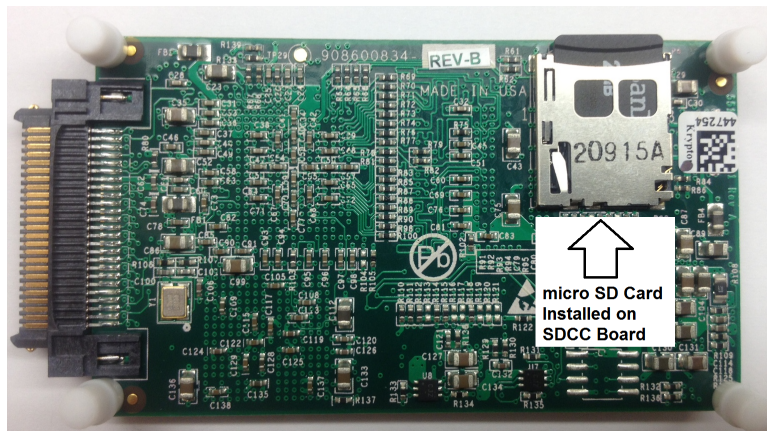

Figure 5. Bottom View of the Simple Capture card with the microSD Memory Card Installed
**NOTE:** Ensure the microSD memory cards that contain the software are installed in the microSD socket on the back of the Simple Capture card and on the back of ADS8688EVM board. Figure 5 and Figure 6 show the bottom view of the Simple Capture card and ADS8688EVM, respectively, with the microSD card installed.
1. Verify the microSD card is installed on the back of the Simple Capture card ; see Figure 5.